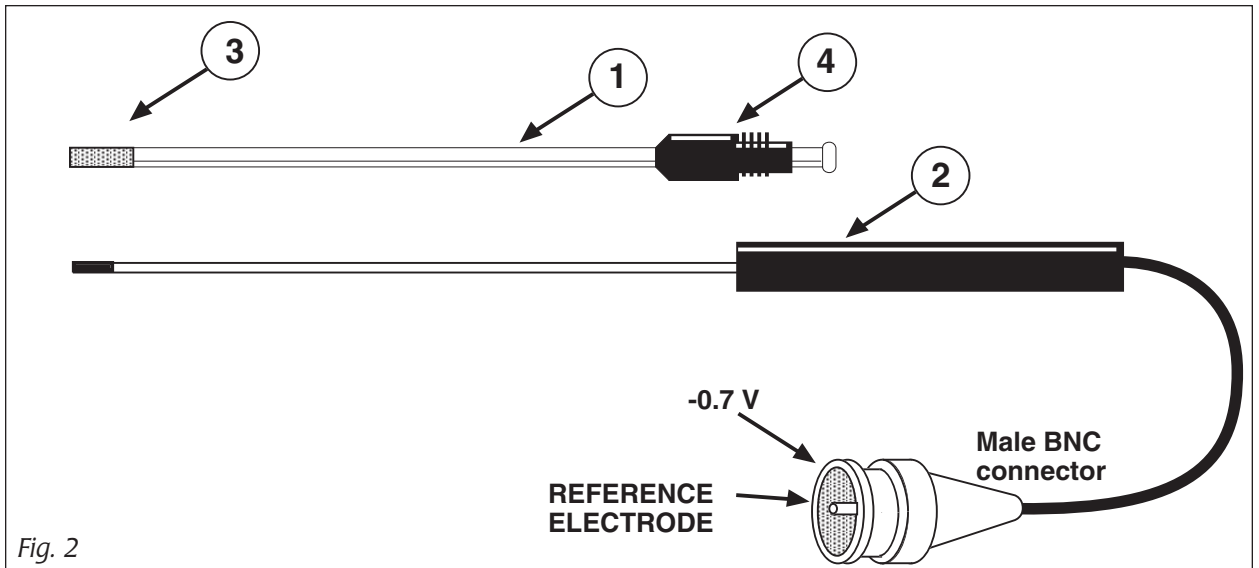

Fig. 2
The OXELP oxygen probe is specifically designed to be used with WPI's ISO₂ dissolved oxygen meter. Users who wish to employ OXELP with other instruments should see Fig. 2, page 7 for plug information.
Fig. 2 shows the principal components of an OXELP probe. A gas permeable membrane (3) is cemented to the tip of the outer stainless steel sleeve (1). The interior of the probe is a slender wand containing the platinum cathode and silver counter / reference electrode inside the sleeve. The wand is permanently mounted in the probe's plastic handle (2). After electrolyte has been deposited inside the sleeve (see below), the wand is slowly inserted into the sleeve and secured by screwing the sleeve cap (4) gently into the probe handle. If the membrane on the stainless steel sleeve becomes damaged, the entire sleeve must be replaced. Two spare sleeves are provided with the ISO2 kit, and the user may purchase more. Should the user wish to sterilize the probe this should be done with alcohol or some other chemical for an assembled probe. The membrane sleeves can be autoclaved separately from the probe should the user desire to do this and then place the sterilized membrane sleeve onto the probe.